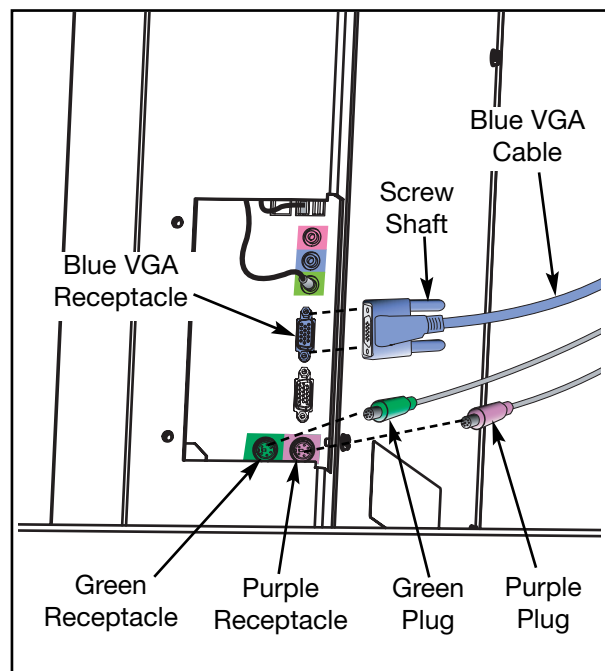

Figure 10
F. Insert the green plug into the green receptacle and the purple plug into the purple receptacle. See Figure 10.
A. Insert the monitor's blue VGA cable into the blue receptacle in the CPU. See Figure 10.
B. Secure the monitor's blue VGA cable to the CPU by turning the two screw shafts located on the VGA cable. See Figure 10.